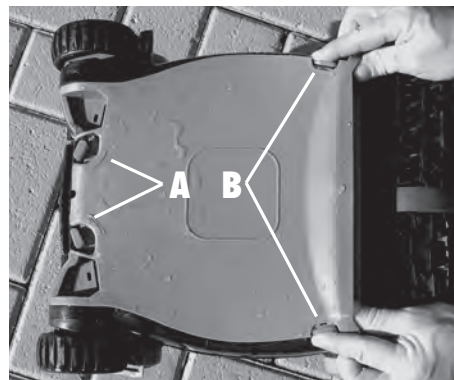

FIGURE 3
- Turn red locking pegs (by wheel area) to the unlocked position as shown in Fig 3. Next press the two red locking clips near the roller brush in towards the center of the unit. Lift the bottom lid out.